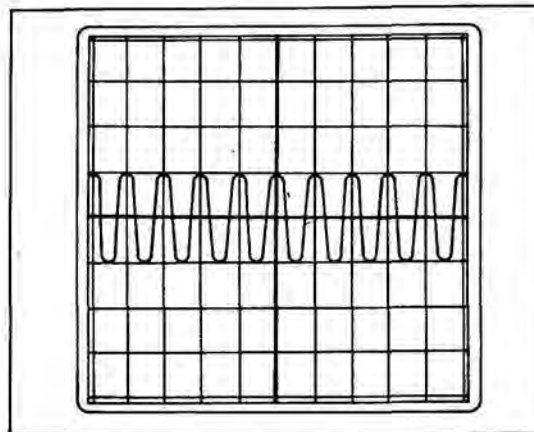

Figure 4-4 Positive Peaks of Sine Wave Centered Over Vertical Axes
| 20. | Simultaneously adjust HORIZ Control (38) and R4357 (HORIZ GAIN) on Spectrum Analyzer Scope Main PC Board to center each positive peak of displayed sine wave over a vertical axis on CRT graticule. (See Figure 4-4.) |